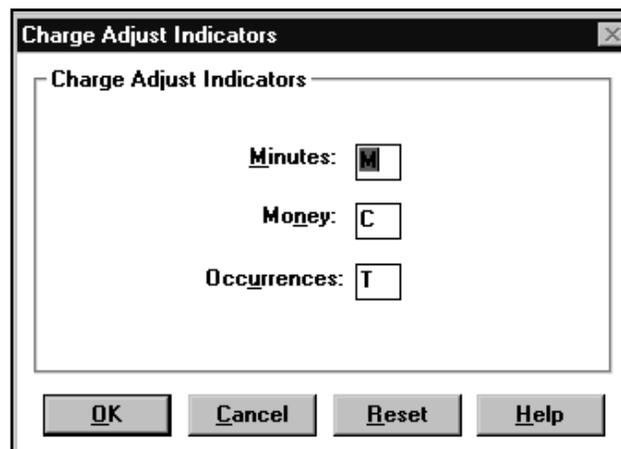

FIGURE 69. Example of Charge Adjust Indicators dialog box
1. In the configuration window, select Charge Indicator. (See Figure 69.)